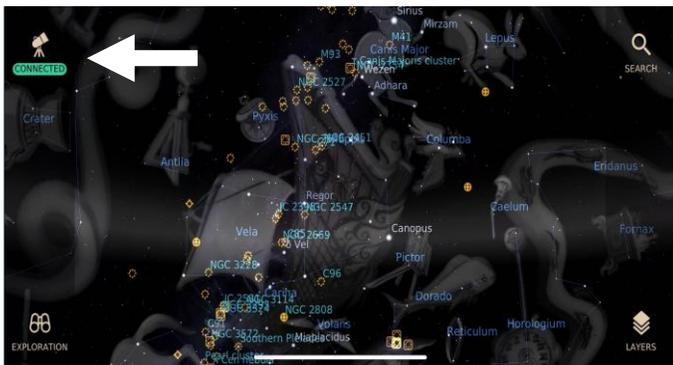

Fig. 3.6
- **Check Indicator:** Look at the upper-left corner of the Home Page. A green icon stating "CONNECTED" confirms the link is active. See Fig. 3.6.